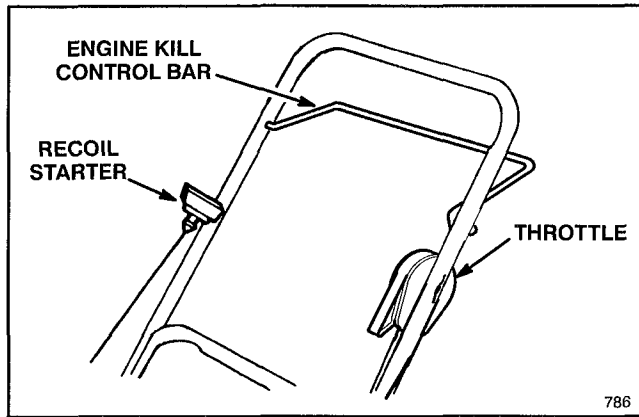

Figure 7
1. CONTROLS—Throttle, engine kill control bar and recoil starter are on upper handle (Fig. 7).
6. STOPPING (Fig. 7)—Release control bar and stay behind handle until engine and blade stop. Pull